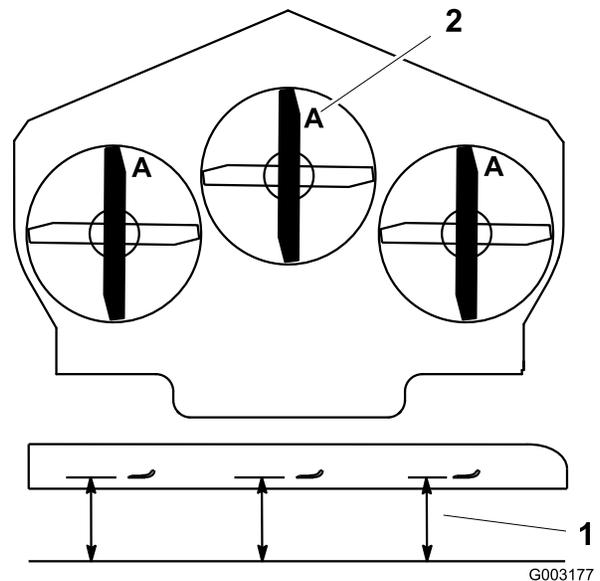

Figure 108
4. Measure from a level surface to the cutting edge, position A, of the blades (Figure 108).